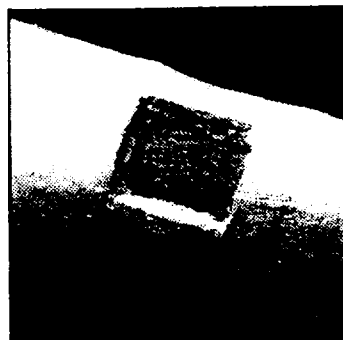

Fig. E.3
- 3. Cutting the Cast.** Cut a cast window following the template markings on the cast. Be sure to make the opening only as large as the interior perimeter of the template (err on the side of being slightly smaller than larger). The RAF's lateral and medial flanges should sit on the surface of the cast. Remove all the loose cast material, including the cast padding and stockinette, to expose the bare skin (Fig. E.3).